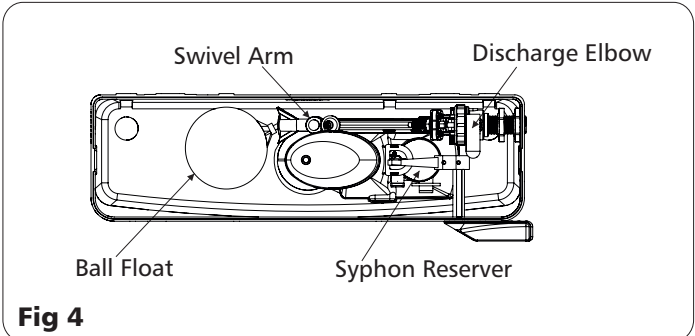

Fig 4
Bottom and side entry types are fitted with 3mm (1/8") bore high pressure seats (white) to suite mains water supply. A low pressure 6mm (1/4") bore seat (red) is also provided for use only when the cistern is fed from a low pressure supply i.e. a storage tank. Screw ball float onto the end of the arm before fitting valve. Set float position after fitting in to cistern if it is fitted with a swivel arm. (**Fig. 4**).
**Important:** Make certain that the float arm moves freely in a vertical path and does not contact other internal components. Position the overhead discharge elbow (**Fig. 4**) so that it is not directed into the reservoir of the syphon. (**Fig. 4**).